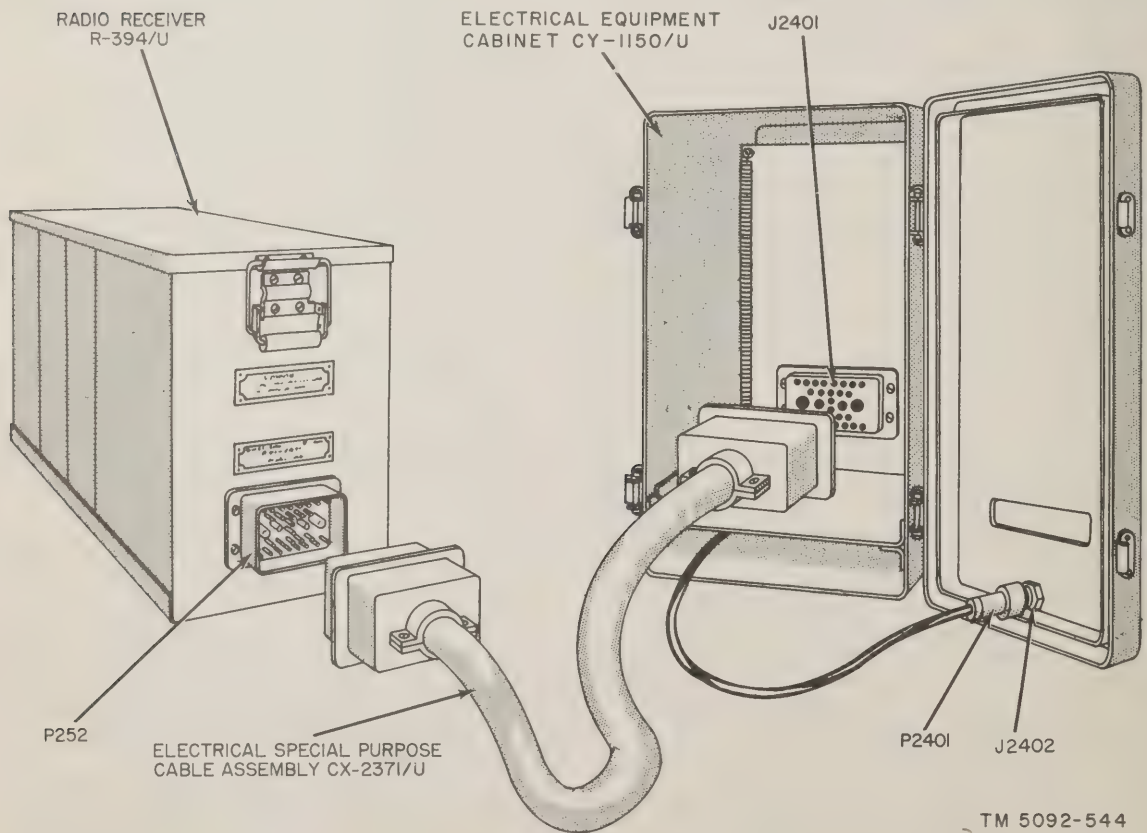

Figure 39. Radio Receiver R-394/U, patch cord connection to Electrical Equipment Cabinet CY-1150/U.
- (2) If a 6-volt source of power is used, install Power Supply PP-869/U in the receiver and connect P251 to the power supply connector.
- (3) If a 12-volt source of power is used, install Power Supply PP-868/U in the receiver and connect P251 to the power supply connector.
- (4) If a 24-volt source of power is used, install Power Supply PP-867/U in the receiver and connect P251 to the power supply connector.
b. Connections to Electrical Equipment Cabinet CY-1150/U. Connect the patch cord between P252 of the receiver and J2401 of the cabinet (fig. 39).
- (1) When Power Supply PP-846/U is used with a 115-volt power source, connect the input power cord to terminals 4 and 5 of TB2401. When a 230-volt source is used, connect the input power cord to terminals 4 and 6 of TB2401.
- (2) When Power Supply PP-867/U, PP-868/U, or PP-869/U is used, connect the input power cord to terminals 7 and 8 of TB2401.